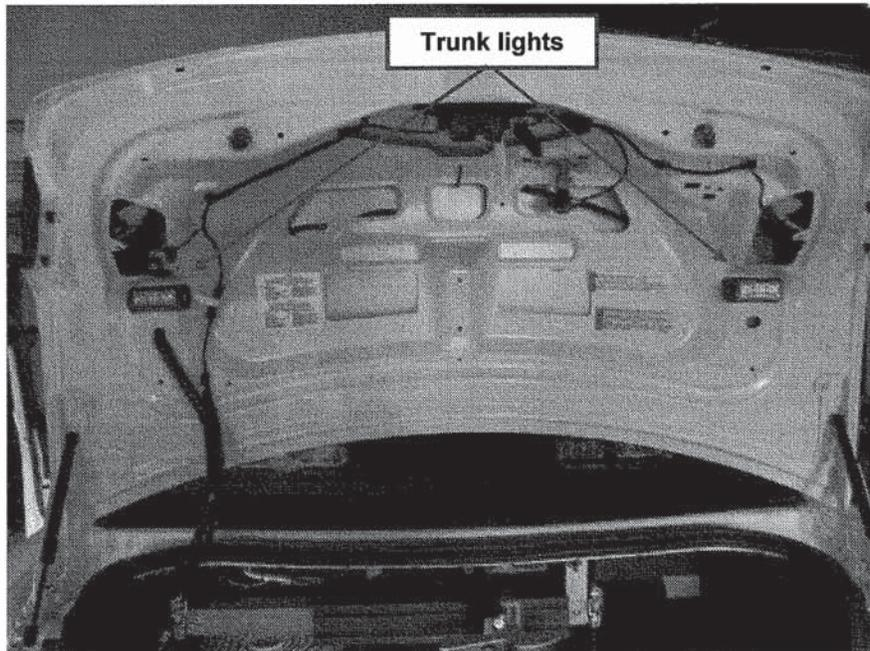

Figure 12 – Ford Police Interceptor Sedan – Placement of trunk-lid police lights
16. Ford Police Interceptor Sedan marked MP vehicle ***shall*** have police lights installed on the underside of the trunk lid to ensure maximum visibility on the roadside when the trunk is open (see *Figure 12*).